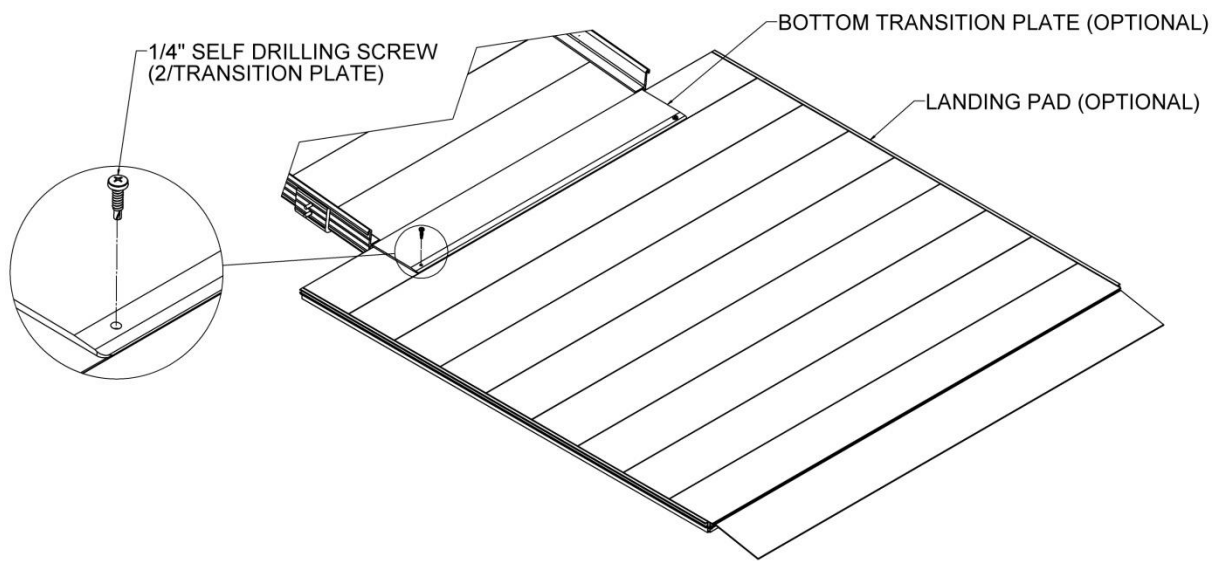

FIG. 6.20
- 6.6.5. Attach the lower transition to the pad using the two provided 1/4" self drilling screws (FIG. 6.20).